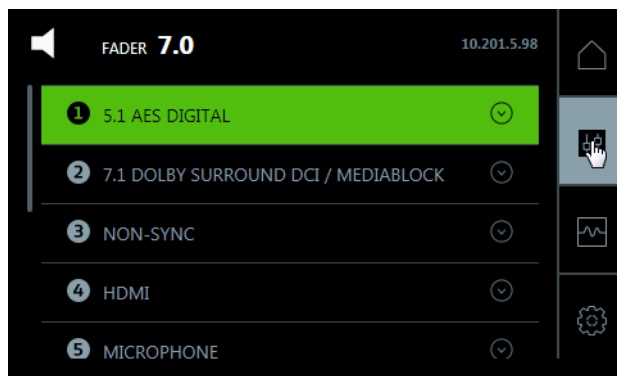

Figure 1-3 Press Macro Button
1. Press the macro button in the menu bar to display a scrollable list of available macros, as shown in Figure 1-3, then locate and press the macro you want to activate. The current macro is highlighted in green.